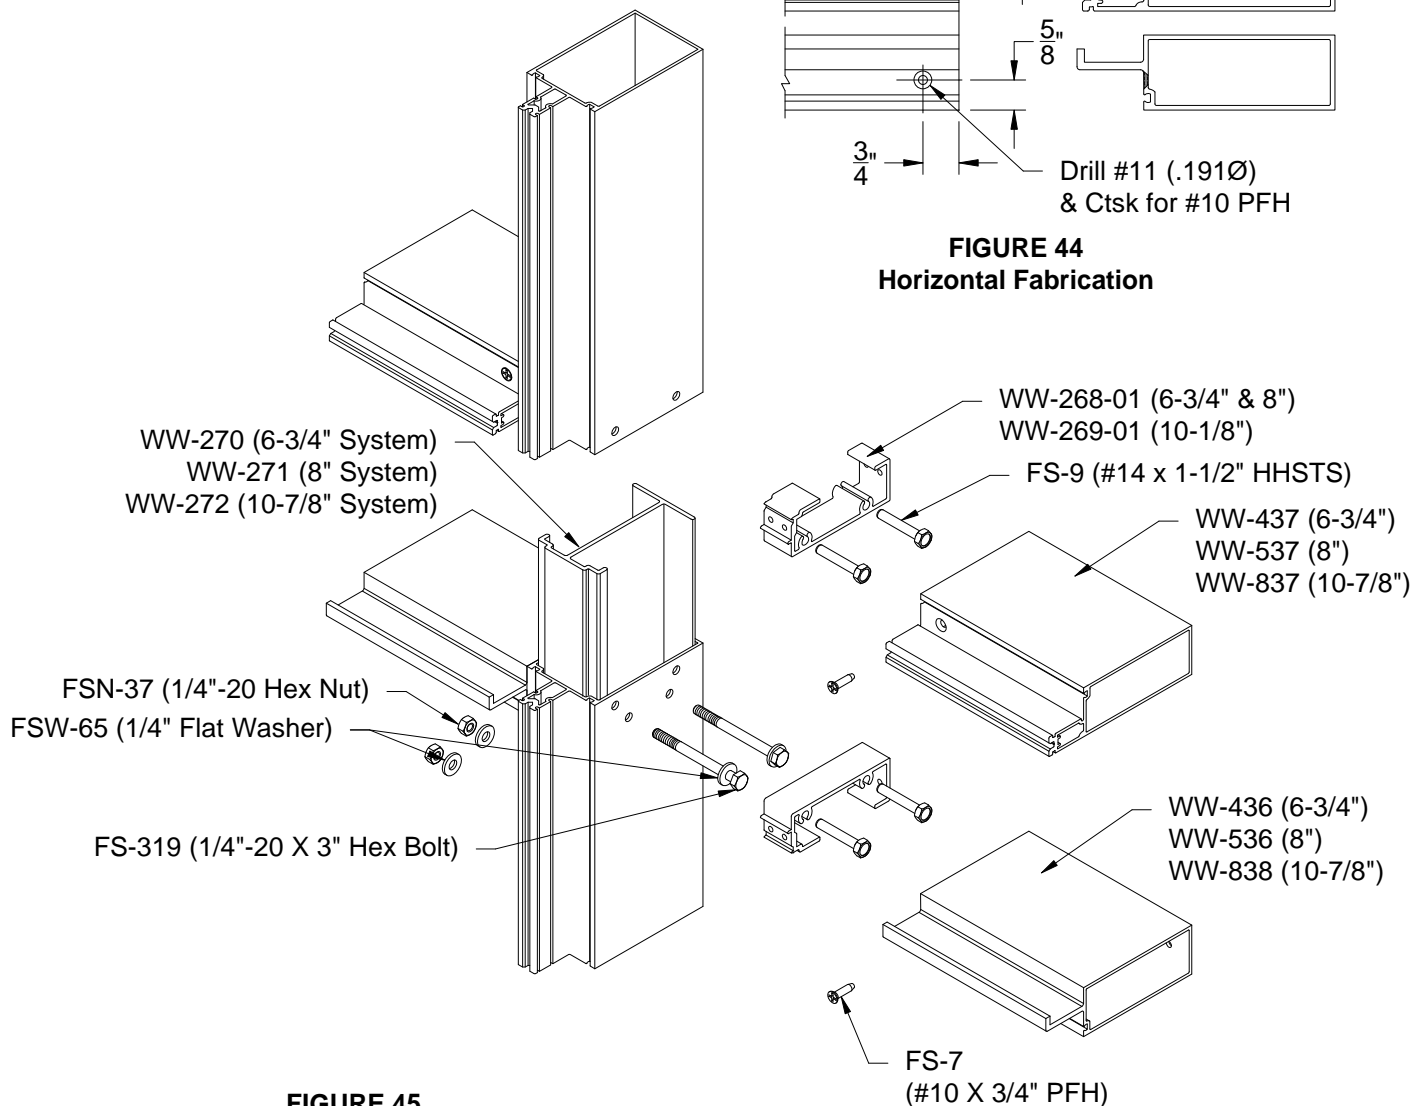

FIGURE 45
- 3.29 FIGURE 45 below shows the shear block assembly for the dual horizontal expansion assembly. Use the Reliance Installation Manual for typical wall assembly.